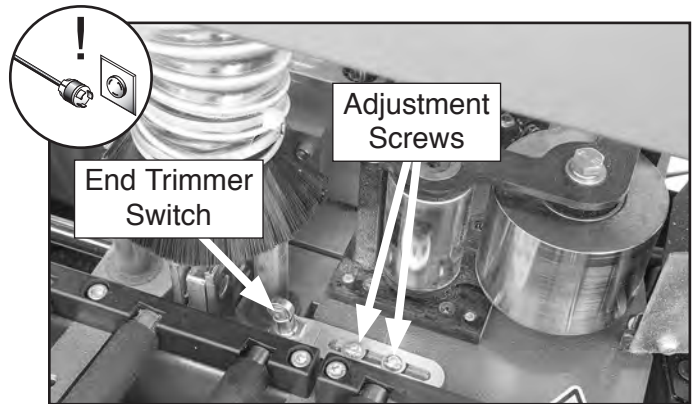

Figure 92. Location of end trimmer switch and adjustment screws.
When the workpiece passes over the end trimmer switch (see **Figure 92**), the end trimmer trims the leading and trailing ends of the glued edgebanding flush with the ends of the workpiece. If the end trimmer fails to trim the edgebanding flush with the ends of the workpiece, you will need to adjust the switch.
2. Loosen adjustment screws (see **Figure 92**).